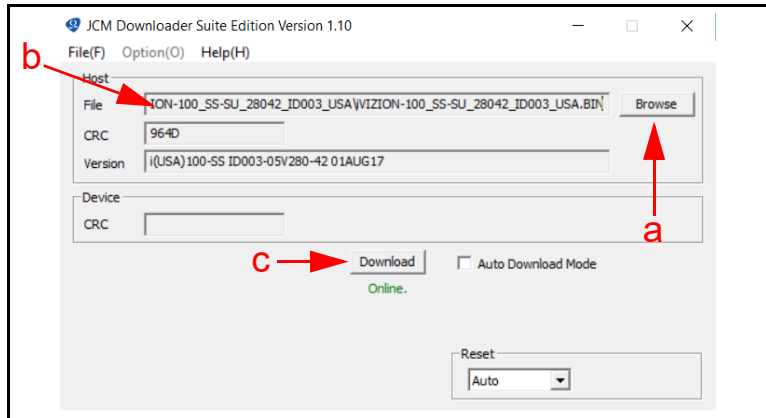

Figure 11 JCM Downloader Suite Edition
The screen shown in Figure 11 will appear.
5. Click the "Browse" button (Figure 11 a) to locate the download file desired. Click on the file to be downloaded so it appears in the "File" field (Figure 11 b), then click on the "Download" Screen Button (Figure 11 c).